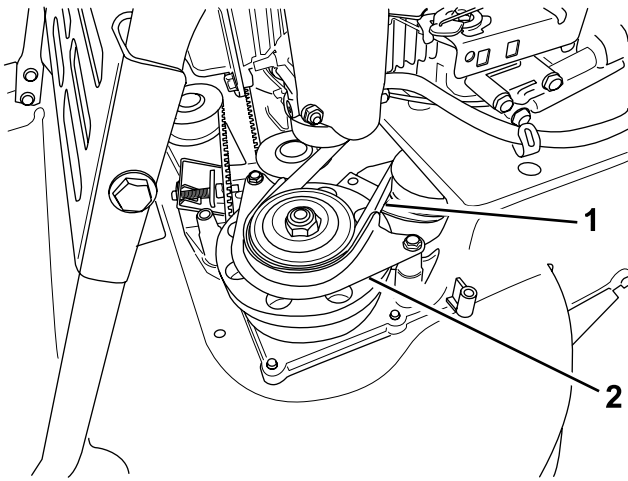

Figure 38
7. Remove the BBC belt guard (Figure 38).